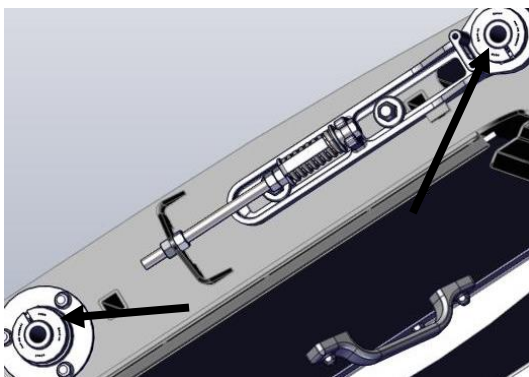

Figure 84
16. Slide the collar on the bearing and tighten the set-screws on the collar to hold in place. Just tighten the screws enough to hold into place. DO NOT overtighten the set screws. Then tighten the Torx screw in the collar to 97 in.lbs. Figure 84